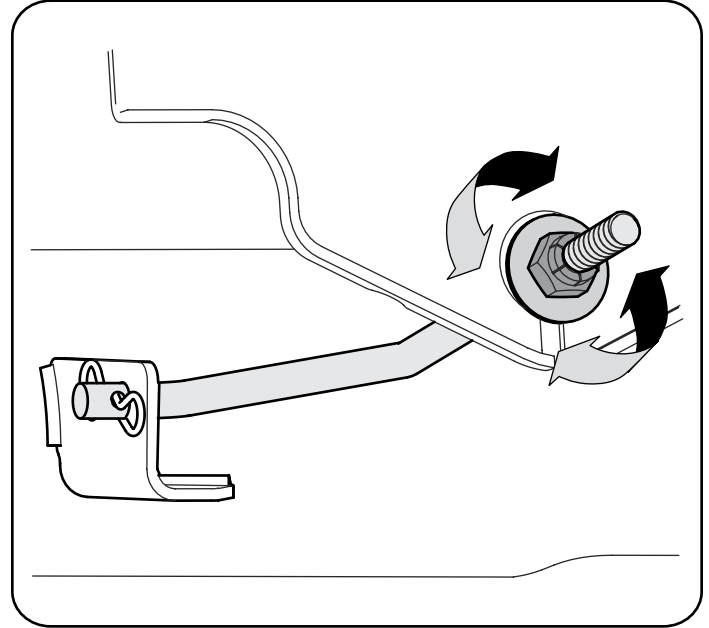

Figure 21
3. Locate the jam nut and lock nut on the front side of the stabilizer bracket. See Figure 21.